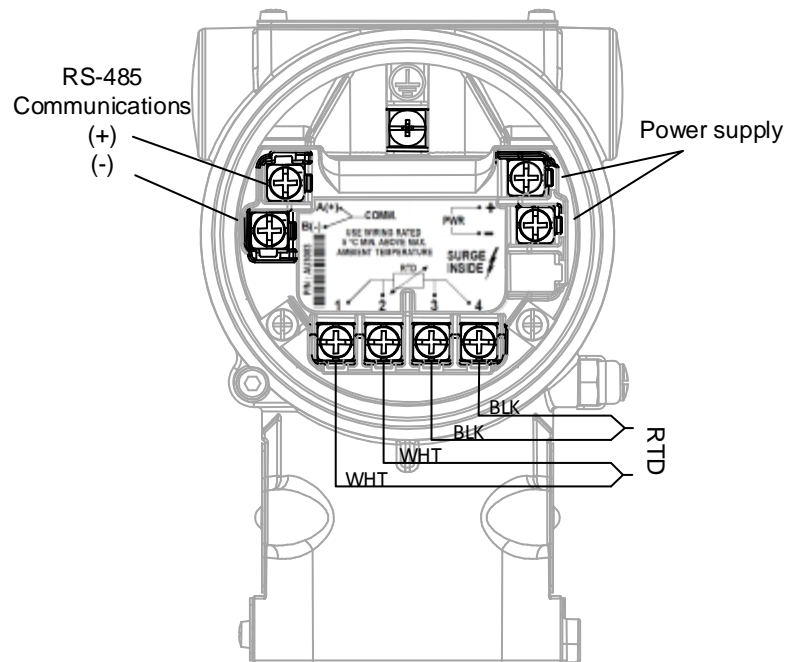

Figure 43: Termination points
3. Disconnect the following terminations from the terminal block in order(Figure 43):
6. Reconnect the following terminations to the terminal block in this order (Figure 43):